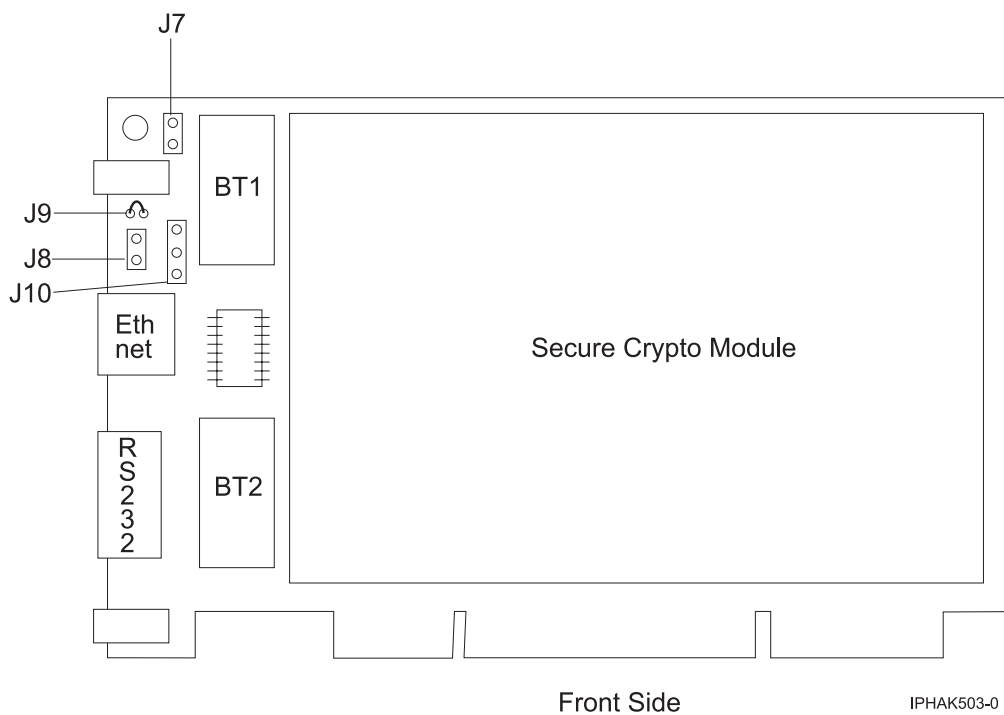

Figure 45. Front side of the adapter
6. Insert one of the new batteries into the battery tray provided with the kit. Align the + on the battery with the + on the battery tray (the end with the red wire). Connect the tray wires to the J10 connector located near the RS-232 serial port, as shown in Figure 45 on page 163. The connector is polarized to ensure a correct connection.